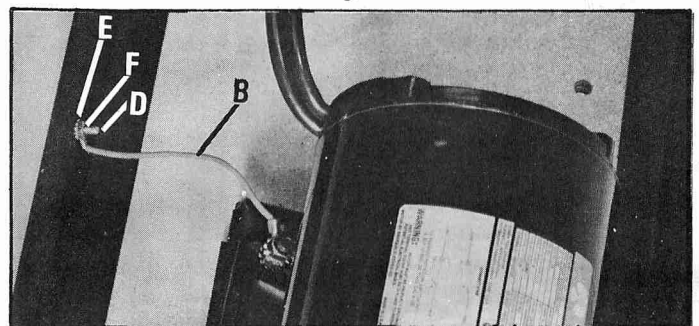

Fig. 11
3. Fasten remaining end of the ground wire (B) to the stand using the #10-24 x 1/2" round head screw (D), external tooth lockwasher (E) and hex nut (F), as shown in Fig. 11. **IMPORTANT:** The proper grounding of the motor to prevent electric shock hazard, depends on the use of the external tooth lockwashers (A) Fig. 9, and (E) Fig. 11, as shown.